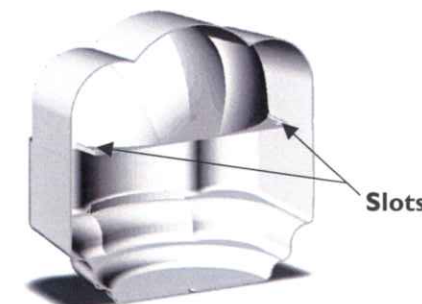
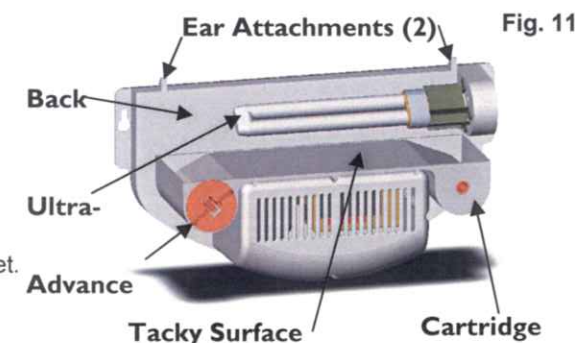

Fig. 10
Fig. 11
2. Fig. 10 is a back view of the sconce attachment features. The sconce has open slots for ease of assembly, disassembly, and ease of cleaning. The back frame (Fig.11) has two ear attachments, that fit into slots on sconce (Fig.10). Simply align the sconce slots over the ear attachments. When you wall mount the unit, sconce will be firm against the wall. When you base mount the unit, sconce will rest on the back plate and base.
The tacky surface of the Cartridge advances slowly and remains effective up to 30 days, under normal use depending on the volume of insect catch. (Fig. 11)